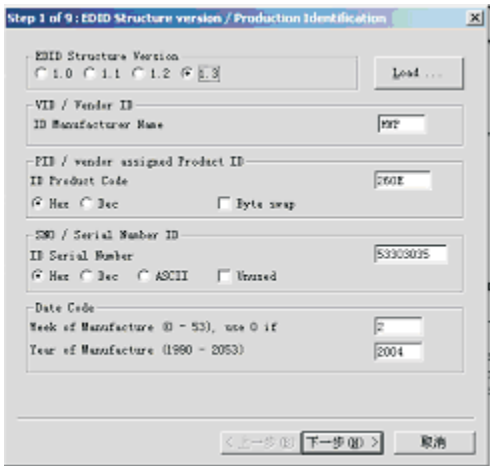

Fig.18
1. Click (new function) icon from the tool bar, bring up Step 1 of 9 as shown in Fig. 18 .